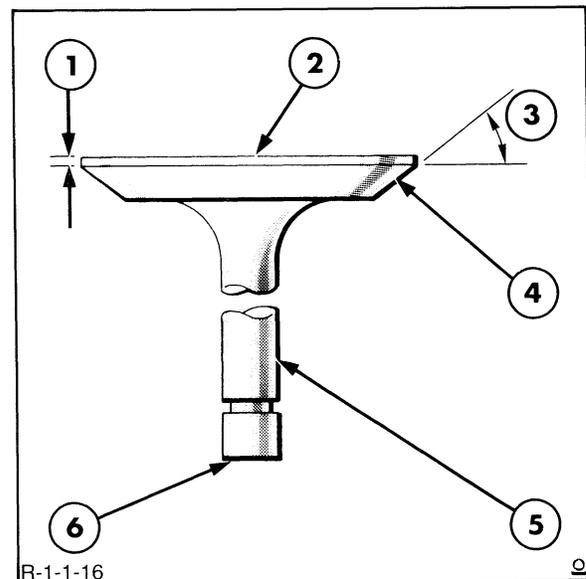

FIGURE 1-15
1. The critical inspection points of the valves are shown in Figure 1-15. Inspect the valve face and the edge of the valve head for pits, grooves, scores, or other defects. Inspect the stem for a bent condition and the end of the stem for grooves or scores. Check the valve head for cracks, erosion, warpage, or burn. Minor defects, such as small pits or grooves, can be removed. Check the valve tip for pits or grooves and replace the valve if such a condition exists. Discard valves that are severely damaged.
angle of the valve is 0.5 less than the valve seat to provide an interference angle for better seating. Adjust the valve refacing tool to obtain a face angle of 44.5°, Figure 1-15.